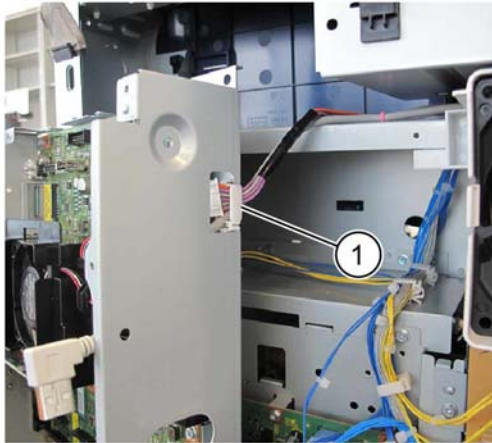

Figure 15 USB cable and connector
18. If the machine has a fax installed, release the USB cable and connector from the clamp (1), Figure 15.